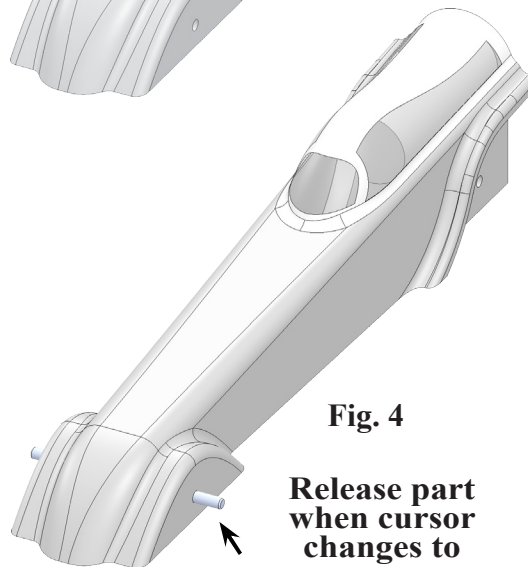

Fig. 4
Step 7. Position **Front Axle near Front Axle hole**, **Fig. 4**. When Axle snaps into place and cursor changes to indicate a Concentric mate , click to release Axle.